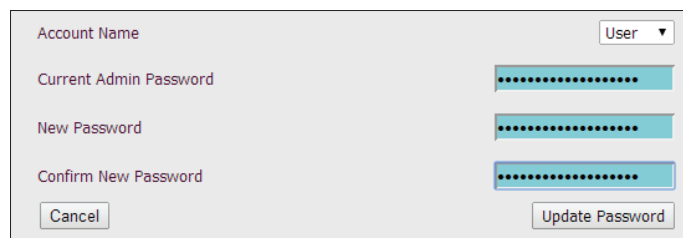

Figure 36: Changing the User Password
6.) To create or update the User password, in the *Passwords Window*, *select* **<User>** as the Account Name. You must *type* the Admin password in the Current Admin Password field. Then *type* a password in the New Password field, *retype* the password in the Confirm Password field and then *click* **<Update Password>**. See **Figure 36**.